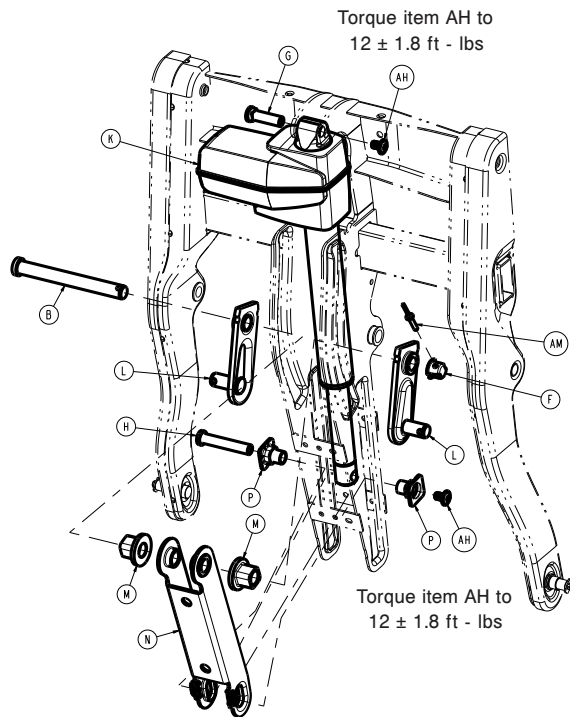

Figure 28 – Replacing the lift actuator
12. Using a ratchet and a T40 Torx driver, remove the screw (AH) and lift foot pin (H) that secure the top of the actuator to the lift mechanism (Figure 28). Hold the lift foot pin in while you loosen the screw. The screw is keyed with the lift mechanism.